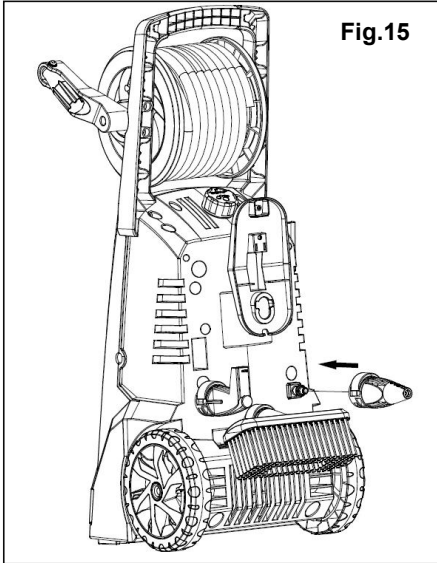

Fig.15
4. Remove the nozzle from the spray lance and storage them on the washer unit (Fig.15).